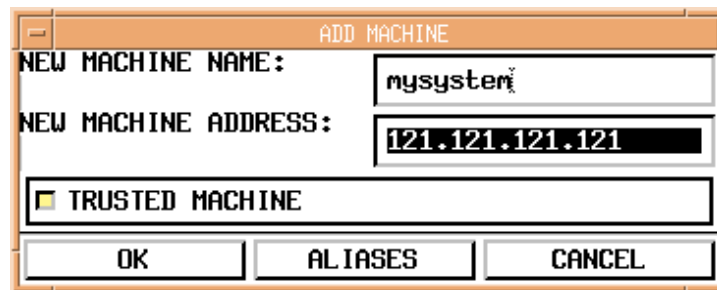

Figure 28. ADD MACHINE Window
STEP 1: Click on the ADD button. The ADD MACHINE window appears (Figure 28).